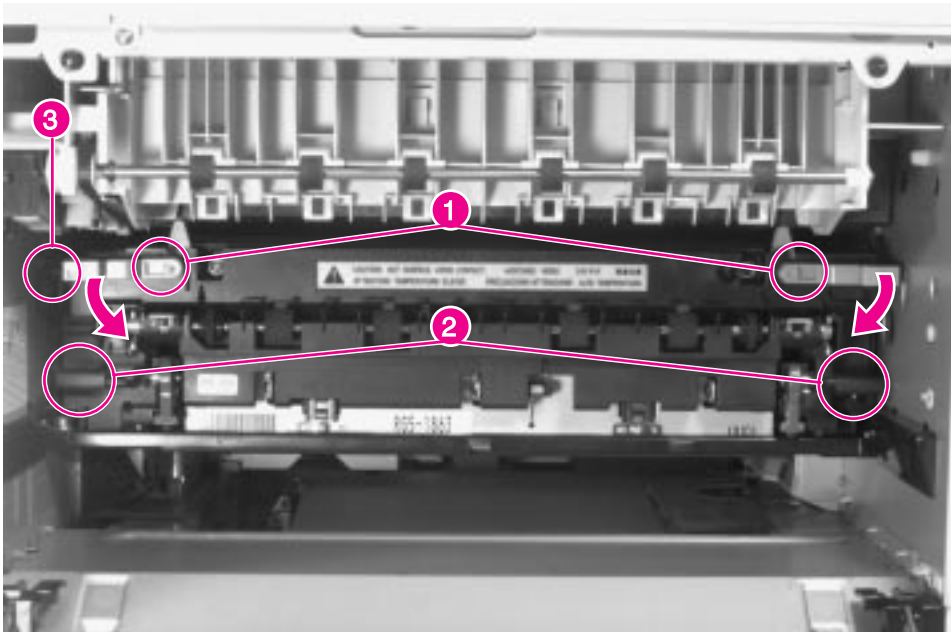

Figure 6-26 Fusing Assembly
- 2 Remove the Fusing Assembly (see figure 6-26 on page 187).
- 2 To release the Fusing Assembly rotate the upper levers down (figure 6-26, callout 1).
- 3 To remove the Fusing Assembly lift up on the finger handles (figure 6-26, callout 2) while pulling outward.
- 1** Make sure that the Fuser Output sensor flag (figure 6-26, callout 3) on the upper left corner of the Fusing Assembly rotates freely.